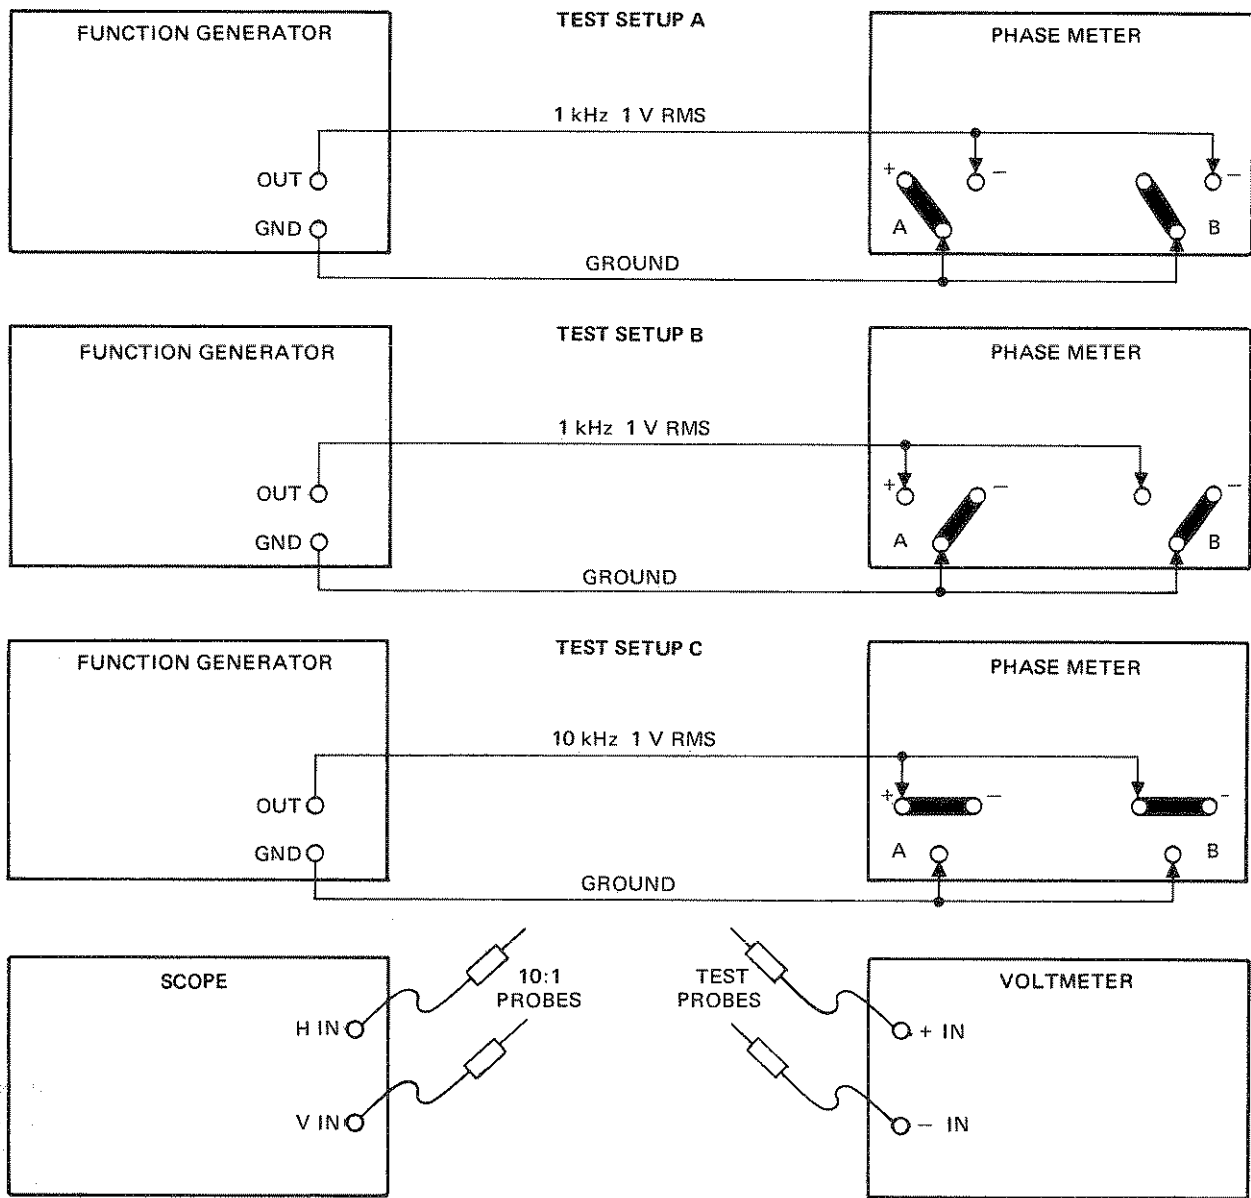

Figure 4-1. Calibration Set-Up
- 1. Connect the Model 750 Phase Meter in the test set up illustrated in Figure 4-1[A].
4. With equipment connected as shown in Figure 4-1[A]; hold CALIBRATE switch down (000.0/−180.0) and adjust 000.0 ADJ R81 for 000.0 plus or minus 1/2-count.
26. Connect a 1 kHz sine wave, 10 mV rms (28 mV p-p), into each input (Figure 4-1[A]).
37. Apply a 10 mV rms sine wave, 80 kHz, into both channels, using the test configuration shown in Figure 4-1[A].
41. Apply a 1 mV rms sine wave to both inputs, using the configuration shown in Figure 4-1[A] and, while watching the digital readout, vary the frequency from 1 kHz to 10 kHz. Record the reading at 1 kHz and the reading at 10 kHz. Determine the difference between the two readings, taking into account the polarities indicated, and record this as the "error span".
44. Set both VOLTS RMS selectors to .3-300, and apply a 1 kHz 7 V rms sine wave to the positive input terminals as shown in Figure 4-1[B]. Connect the probes of a dual channel scope, with lissajous capability, between the plus input terminal and test point TP1 of Channel A.
47. Apply a 10 kHz, 10 mV rms, sine wave to both inputs as shown in Figure 4-1[C]; and set VOLTS RMS selectors to .001-2.
51. Set both VOLTS RMS selectors to .3-300, and apply a 7 V rms 25 Hz sine wave to both inputs as shown in Figure 4-1[C].
58. Check plus and minus full scale calibration on both RANGE selections by applying the same sine wave, 1 kHz at 1 V rms, to both inputs as shown in Figure 4-1[A].